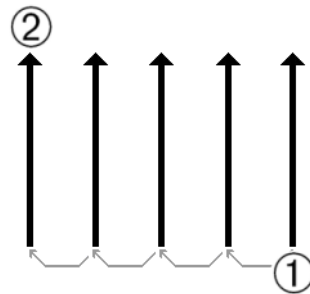

Figure 39: Given manner
Figure 39 shows all different ways of scanning in a scheme. The measurement starts at your starting point ① and ends at point ②.